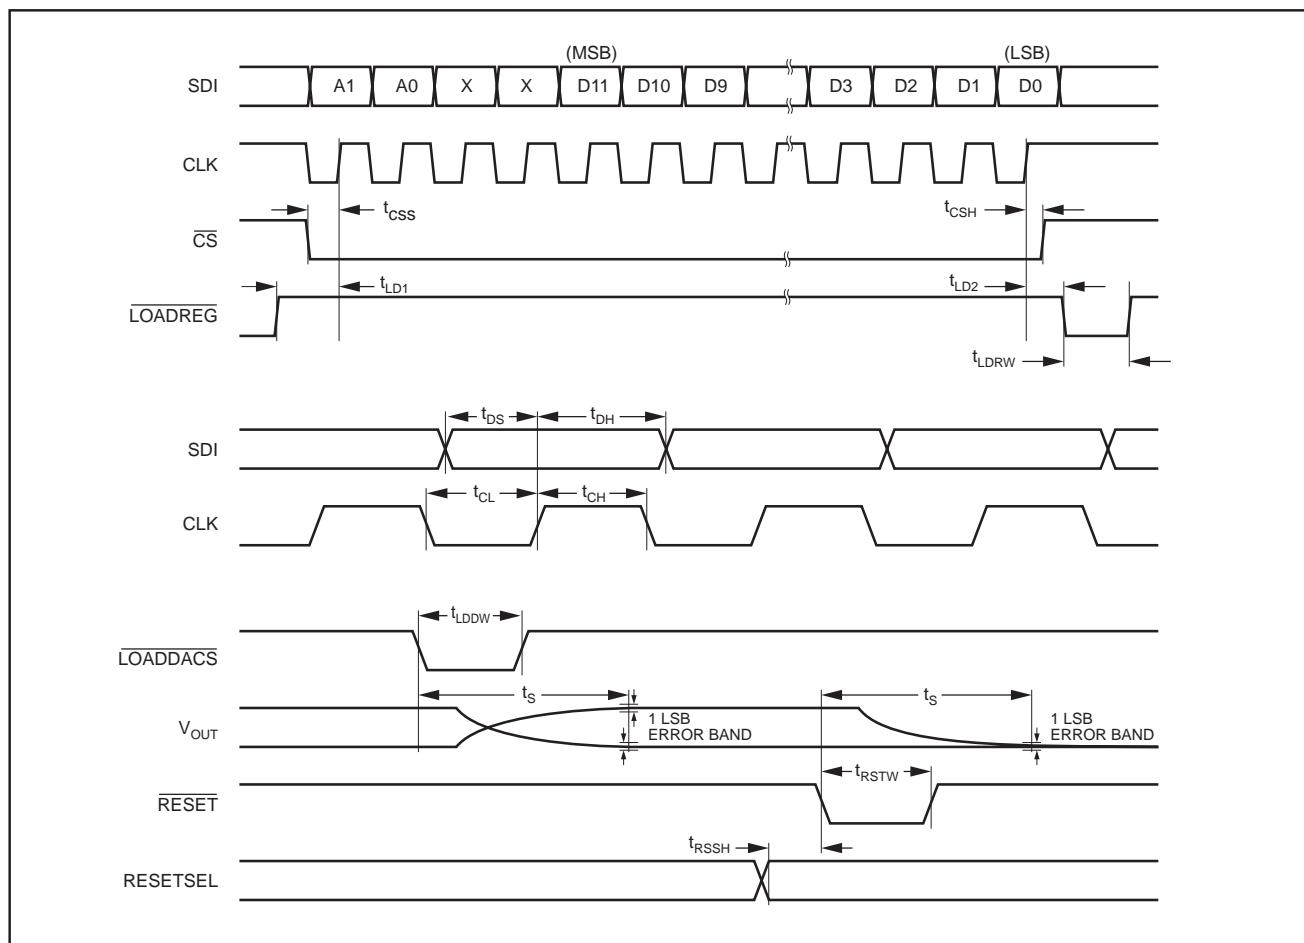

FIGURE 3. DAC7615 Timing.
Figure 3 and Table I provide the basic timing for the DAC7615. The interface consists of a serial clock (CLK), serial data (SDI), a load register signal (LOADREG), and a “load all DAC registers” signal (LOADDACS). In addition, a chip select (CS) input is available to enable serial communication when there are multiple serial devices. An asyn-
The DAC code and address are provided via a 16-bit serial interface as shown in Figure 3. The first two bits select the input register that will be updated when LOADREG goes LOW (see Table II). The next two bits are not used. The last 12 bits are the DAC code which is provided, most significant bit first.